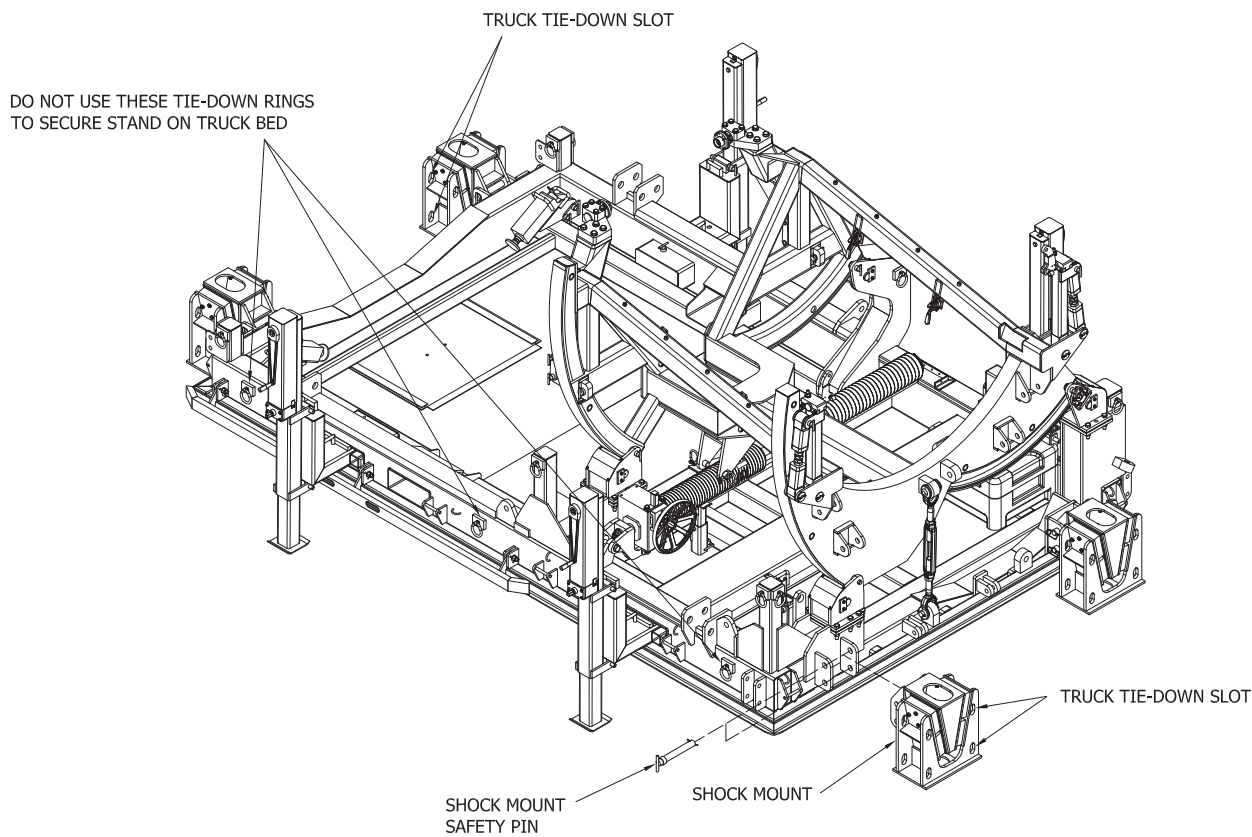

Figure 5.6.3-1 Shock Mount Installation
5.6.3 Shock Mount Usage and Installation (Figure 5.6.3-1)